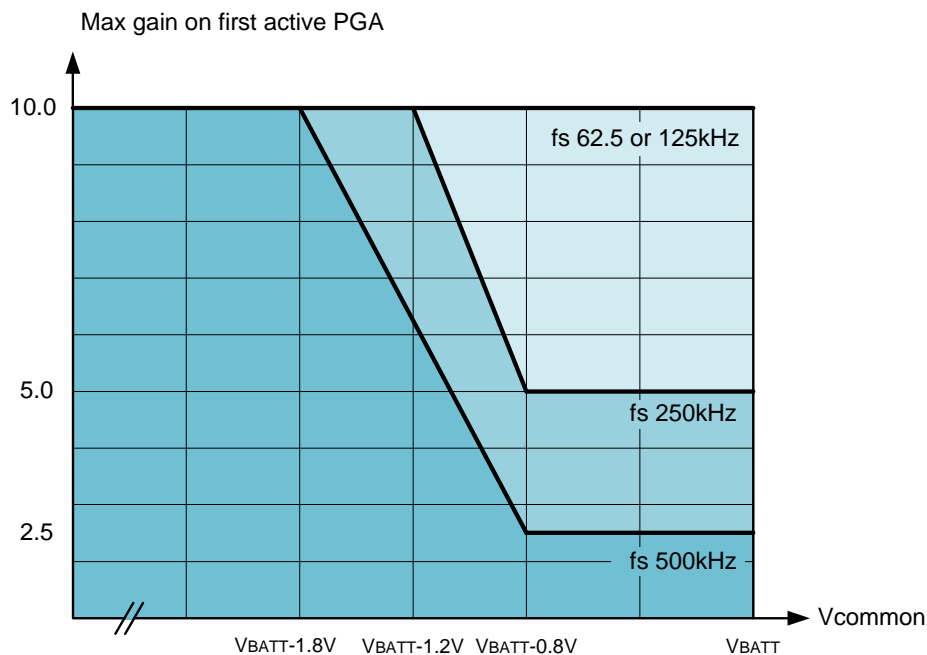
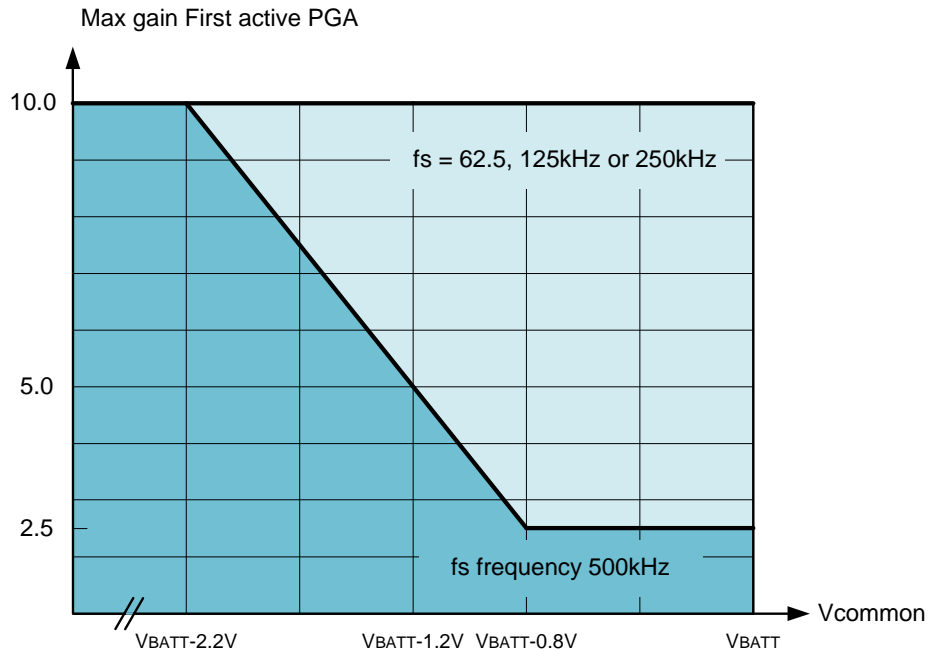

Figure 11. Common mode input range on PGA for  $V_{BATT}$  below 4.2V
Figure 12. Common mode input range on PGA for VBATT above 4.2V
**Figure 11** and **Figure 12** illustrates the limits for the maximal conversion precision according to the common mode voltage ( $V_{COMMON}$ ), the *ADC* over-sampling frequency ( $f_s$ ) and *PGA* gains. The best linearity performances can be
obtained only below these limits, as depicted in **Figure 11** if the supply voltage ( $V_{BATT}$ ) is below 4.2V and as depicted in **Figure 12** if the supply voltage ( $V_{BATT}$ ) is above 4.2V.